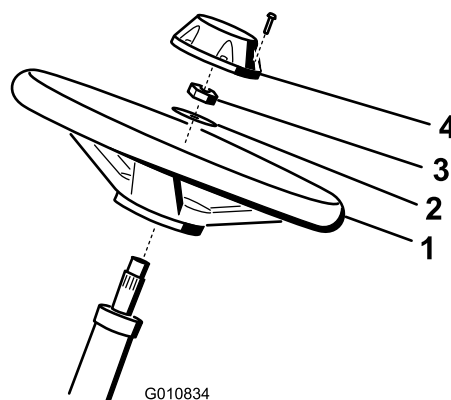

Figure 4
1. Slide the steering wheel onto the steering shaft (Figure 4).
2. Slide the washer onto the steering shaft (Figure 4).
- Secure the steering wheel to the shaft with a locknut and tighten it to 27 to 35 N·m (20 to 26 ft-lb) (Figure 4).
- Install the cap to the steering wheel and secure it with 6 bolts (Figure 4).